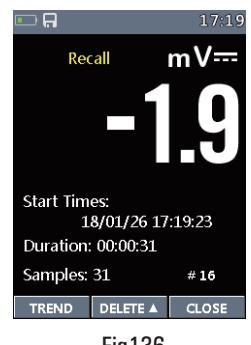

Fig136
- In Record Menu. Press the Button ▲ or ▼ key to select Review Item. Press the Button ► Enter View Record measurement (Fig136).